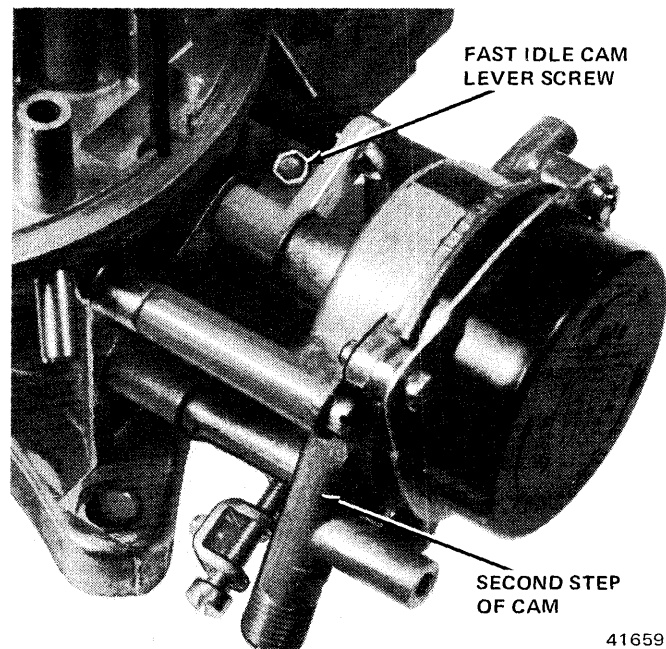

Fig. 4-108 Fast Idle Cam Linkage Adjustment
(1) Rotate choke cover 1/4-turn rich and tighten one retaining screw.
(2) Operate throttle valve to allow choke valve to close completely.
(3) Push down on fast idle cam counterweight until screw is in contact with second step (index) and against shoulder of high step (fig. 4-108).
(4) Measure clearance between lower edge of choke valve and air horn wall. Refer to Carburetor Service Specifications for correct setting.
(5) Adjust by turning fast idle cam adjusting screw.
(6) Loosen choke cover screw and adjust index to specification. Tighten all cover screws.